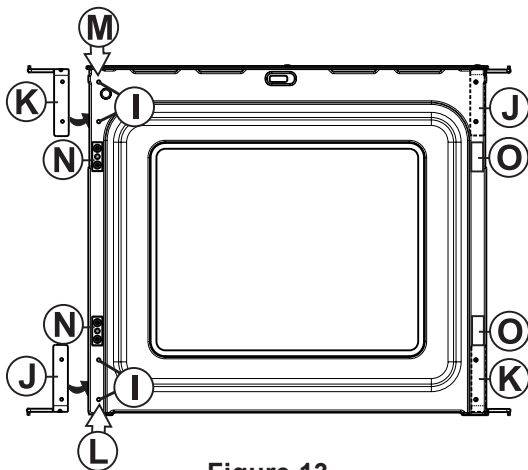

Figure 13
6.3.5. Remove the four (4) caps (See I, Figure 13) located on the left side of the inner door. Keep them for step 6.3.11.
6.3.6. Remove the two (2) plastic plugs (See O, Figure 13) located on the left side of the inner door. Keep them for step 6.3.8.
6.3.7. Remove the two (2) latch pins (Position N, Figure 13) located on the on the left side and install them on the right side (Position O, Figure 13).
6.3.8. Relocate the two (2) plastic plugs, removed on step 6.3.6, on the right of the inner door (Position N, Figure 13).
6.3.9. Unscrew the right side lower hinge and reinstall it on the left side upper position (See K, Figure 13).
6.3.10. Do the same with the hinge located on right side upper position and reinstall it on the left side lower position (see J, Figure 13).